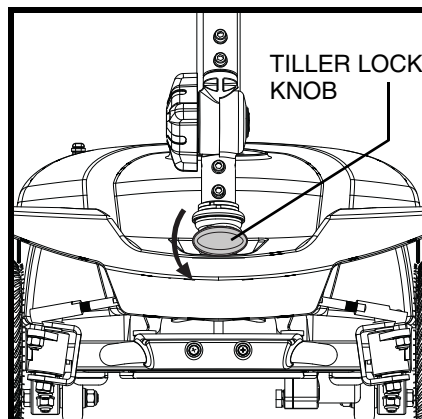

Figure 22. Tiller Lock knob (Unlocked)
9. Unlock the front wheel by turning the tiller lock knob 90° anticlockwise. **See figure 22.**